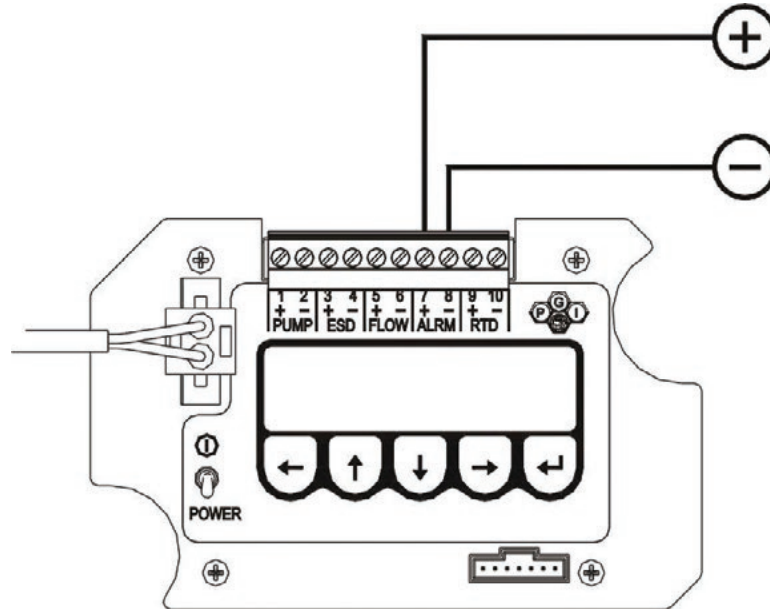

Figure 11: Alarm Terminals
D. ALARM Terminals 7 and 8 (refer to Figure 11)